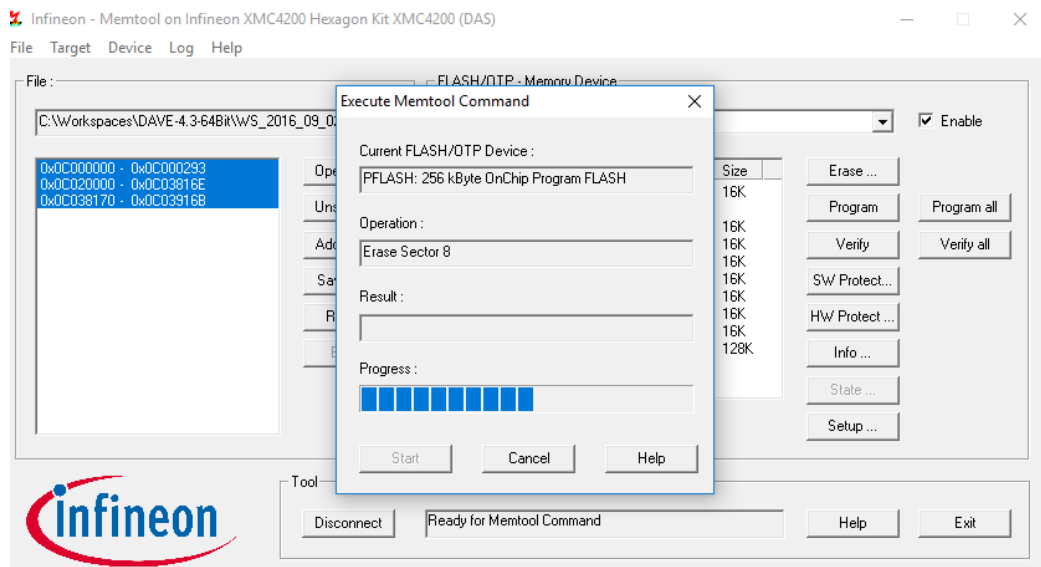
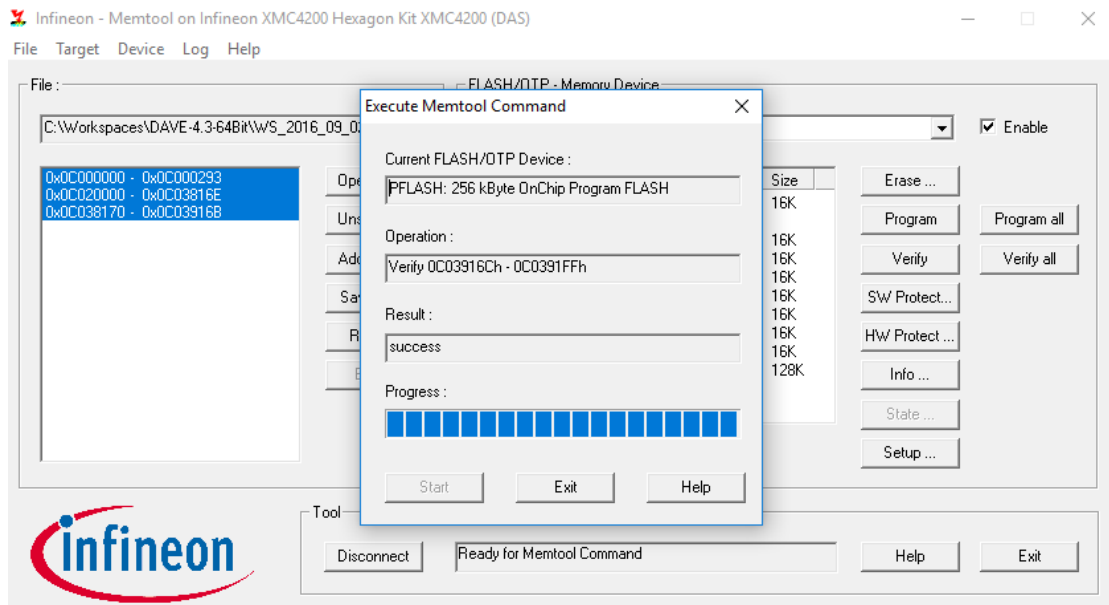

Figure 9. Programming Board in Process
Figure 10. Completed Programming
**Step 7.** Press the Program all button and the programming process will start. It will take 3-5 seconds to flash the new files into the OPS241. A progress window will appear as shown in Figure 9. Upon completion the window will stay present but in the Result box it will say “success” (Figure 10). Press the Exit button to exit the window. The board is now successfully reprogrammed.